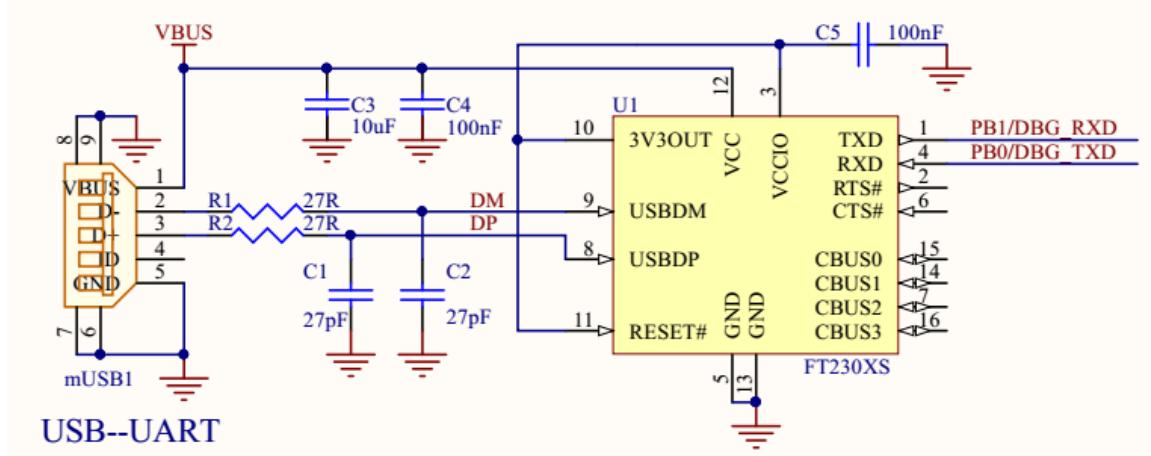

Figure 10. USB to serial reference circuit
- Please according to the SMT reflow soldering curve, peak temperature 245 °C, reflow soldering temperature curve as shown in figure 10, section 5.5;